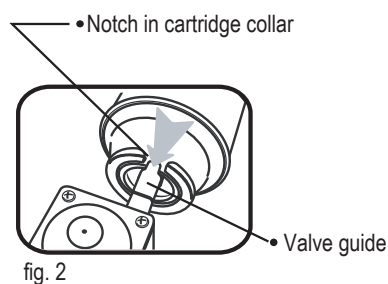

fig. 2
1. Check that the control knob (8) is set to position "●" by turning it clockwise and the cartridge lever (6) is set to "UNLOCK".
2. Open the cartridge cover (2) and insert the cartridge, with the head to the front, so the notch points upwards and aligns in the value guide (fig.2).